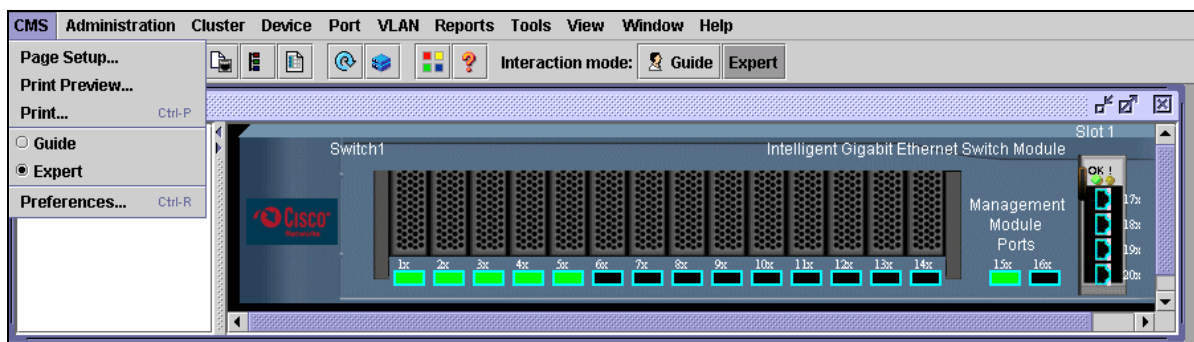

Figure 5-4 CMS menu
- ▶ Administration (Figure 5-4 on page 30)